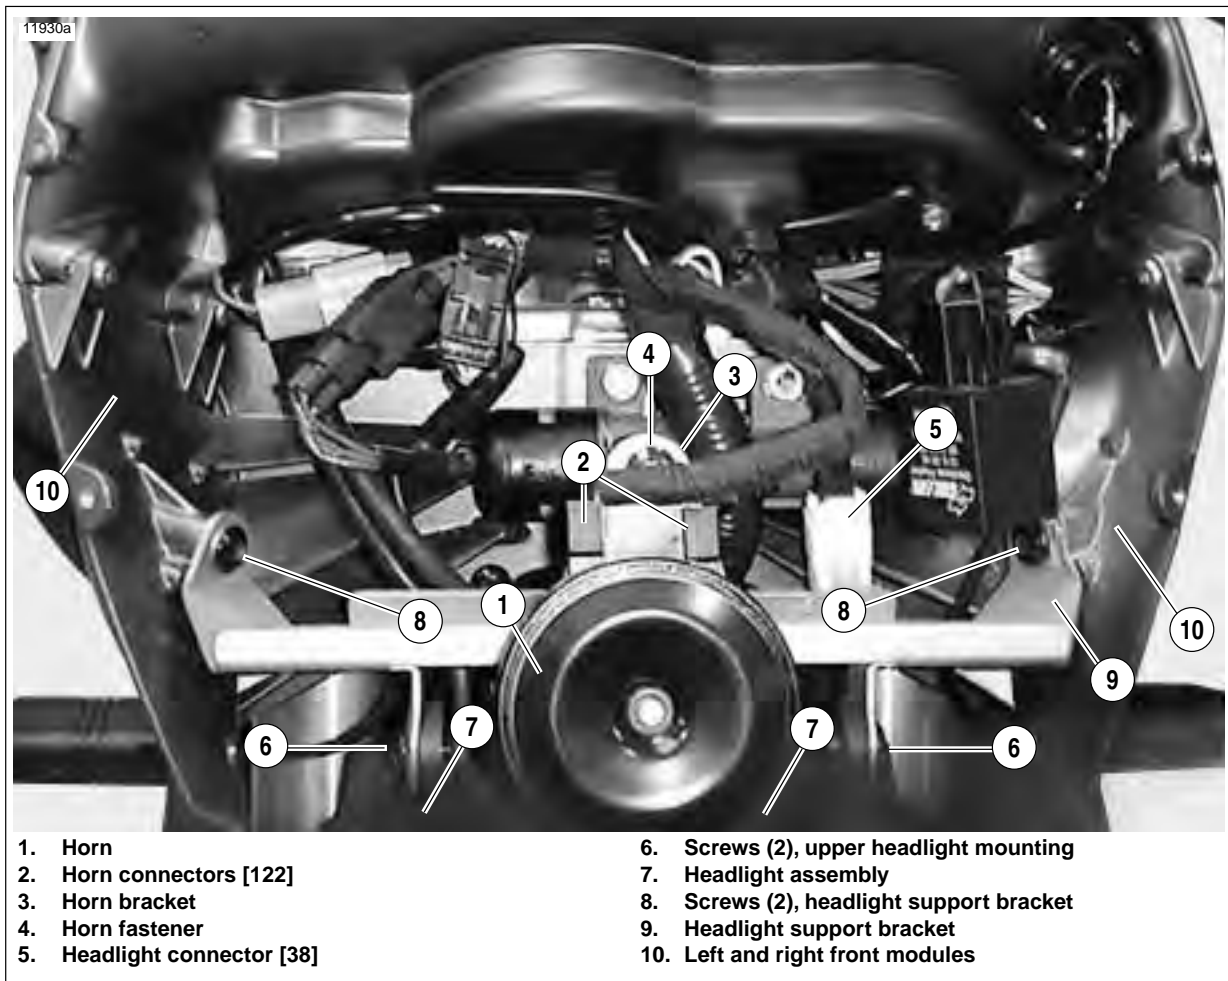

Figure 2-109. Headlight and Support Bracket
1. See Figure 2-109. Install headlight support bracket (9).
2. Apply LOCTITE 271 (red) and install fasteners (8) securing headlight support bracket/turn signal flasher to left and right front modules (10) and tighten to 48-72 in-lbs (5.4-8.1 Nm).
- a. Install headlight assembly (7) into headlight support bracket (9).
- b. Install both upper headlight fasteners (6) but do not tighten.
5. Connect headlight connector [38] (5).
6. Install horn (1) and tighten fastener (4) to 36-60 in-lbs (4-6.7 Nm).
7. Connect horn connectors [122] (2).